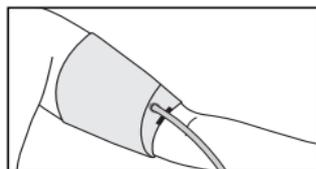

Fig. 11
6. If the arm has a conic form, the cuff should be put on with a spiral movement (Fig. 11).